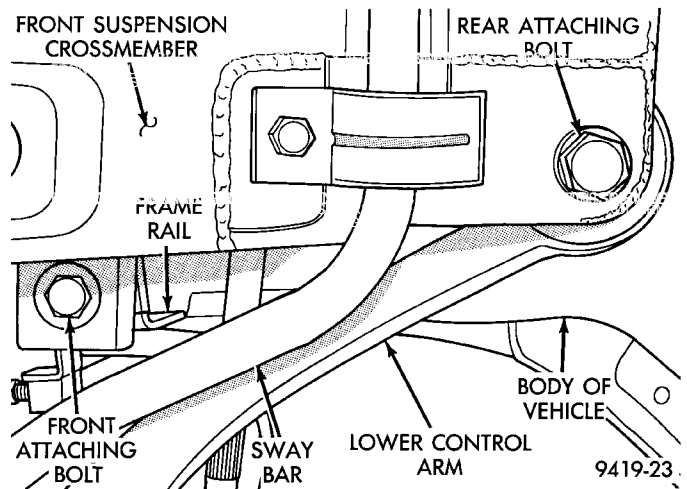
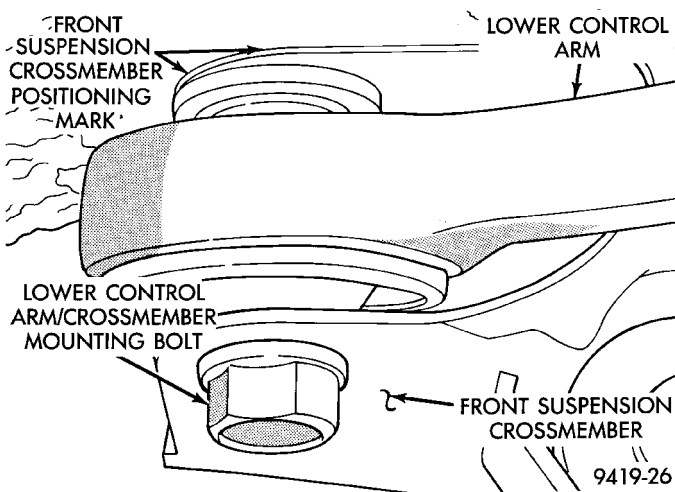

Fig. 13 Front Suspension Crossmember Mounting Bolts
Fig. 16 Crossmember Aligned With Positioning Marks
(12) Loosen and fully remove the front 2 bolts (Fig. 13) attaching front suspension crossmember to frame rails of vehicle. Then loosen the 2 rear bolts (Fig. 13)
(2) Using the transmission jack, raise front suspension crossmember and steering gear against body and frame rails of vehicle. Start the 2 rear bolts into tapping plates, attaching front suspension crossmember to body of vehicle (Fig. 13). Then install the 2 front bolts, attaching front suspension crossmember to frame rails of vehicle (Fig. 13). Tighten the 4 mounting bolts, until front suspension crossmember is against body of vehicle at the 4 mounting points. Then torque the 4 mounting bolts to 2 N·m (20 in. lbs.) to hold front suspension crossmember in position.
CAUTION: When front suspension crossmember is installed back in vehicle, crossmember **MUST** be aligned with positioning marks previously scribed into body of vehicle (Fig. 16). This **MUST** be done to maintain **NET BUILD** front suspension alignment settings.
(3) Using a soft face hammer, tap front suspension crossmember into position, until it is aligned with the 2 previously scribed positioning marks on body of vehicle (Fig. 16). When front suspension crossmember is correctly positioned, torque the 2 rear crossmember/lower control arm mounting bolts to 163 N·m (120 ft. lbs.). Then torque the 2 front crossmember to frame rail attaching bolts to 163 N·m (120 ft. lbs.) (Fig. 13).